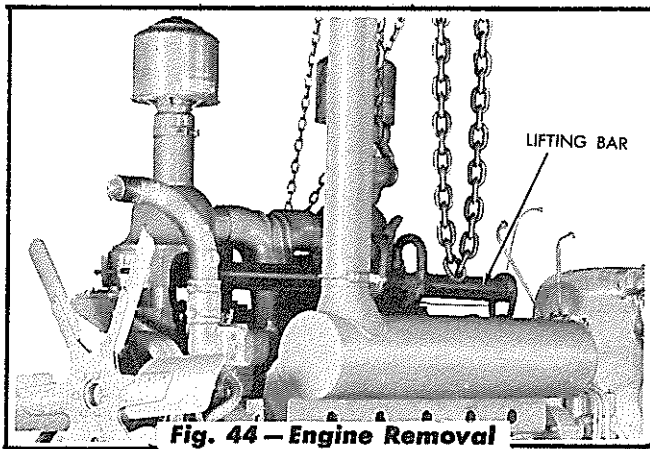

Fig. 44 — Engine Removal
19. Remove the bolt attaching each end of the engine supporting front hanger to the brackets welded to the main frame. Remove the two (2) bolts attaching each engine supporting rear bracket (one bracket on each side) to the main frame.
20. The engine is now ready for removal from the tractor. Using an engine lifting bar, similar to the one shown in Fig. 44, and with the proper lifting facility, raise the engine enough so that the weight is off the engine supports. Move the engine forward and raise it as necessary until the clutch housing is clear of the cowl and then raise and remove it from the main frame. *CAUTION: Use care when removing the engine and make certain that all the necessary wiring, tubing, linkage, etc. is disconnected and that no parts are smashed or damaged by careless handling.*
1. Using an engine lifting bar, similar to the one shown in Fig. 44, and with suitable hoisting equipment, install the engine in position in the main frame of the tractor. As the engine is lowered and is moved towards the rear of the tractor, align the splines in the front yoke on the clutch to transmission universal joint assembly with the splines on the rear of the engine clutch shaft so that the front yoke engages properly with the clutch shaft. Install the attaching bolts in the front and the rear engine supporting mountings and tighten the bolts securely.
The following procedure gives the most logical sequence for the removal of the accessories, starting at one side and working around the engine. Refer to Figs. 44 and 45 when removing the accessories.